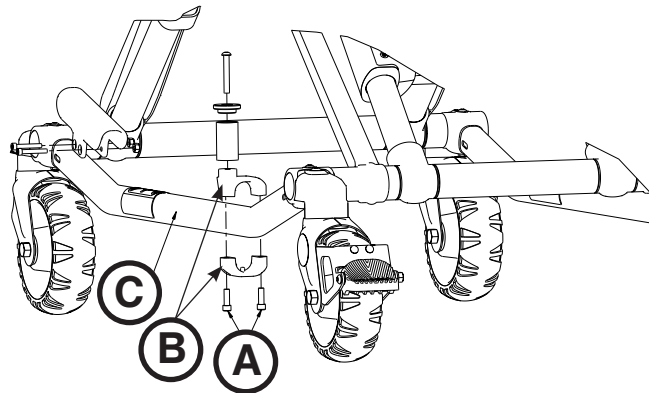

Figure 71
1. Using a T30 Torx driver, remove the two socket head cap screws (A) that hold the brackets (B) to the base frame (C) (Figure 71). Save both screws for reinstallation.